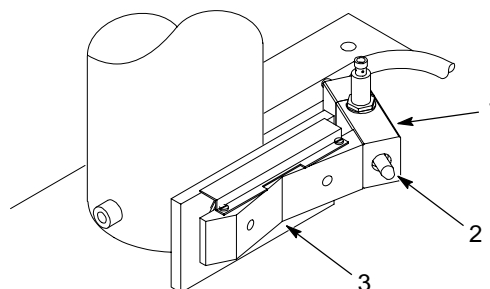

Figure 1 Typical Drum Position Sensor
See Figure 1. The drum position sensor (1) provides a signal to the system controller to verify that a drum is in position below the follower plate or heated platen.